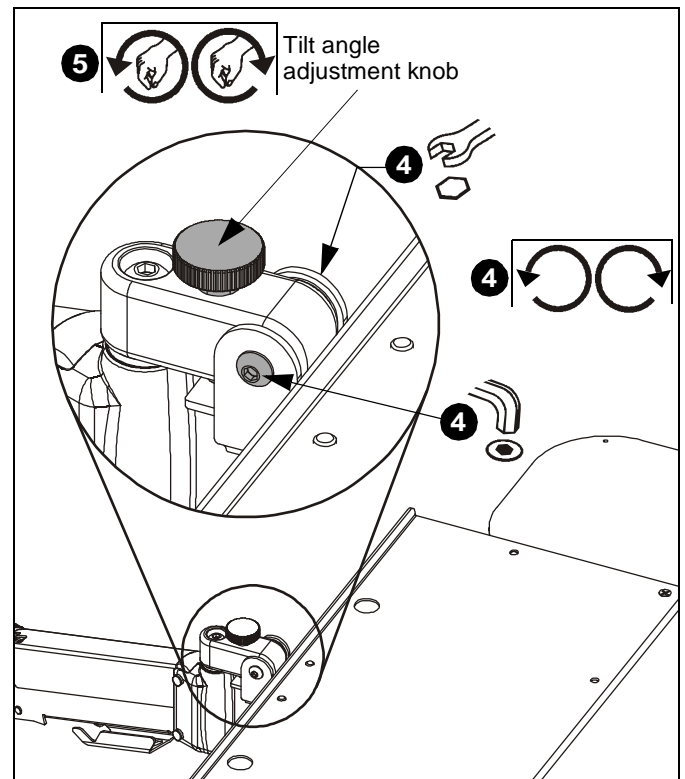

Figure 11
- Adjust tray tension using a 7/16" wrench and a 5/32" (L) hex key. (See Figure 11)
- Adjust the tilt angle adjustment knob as necessary to set tilt angle of keyboard tray. (See Figure 11)